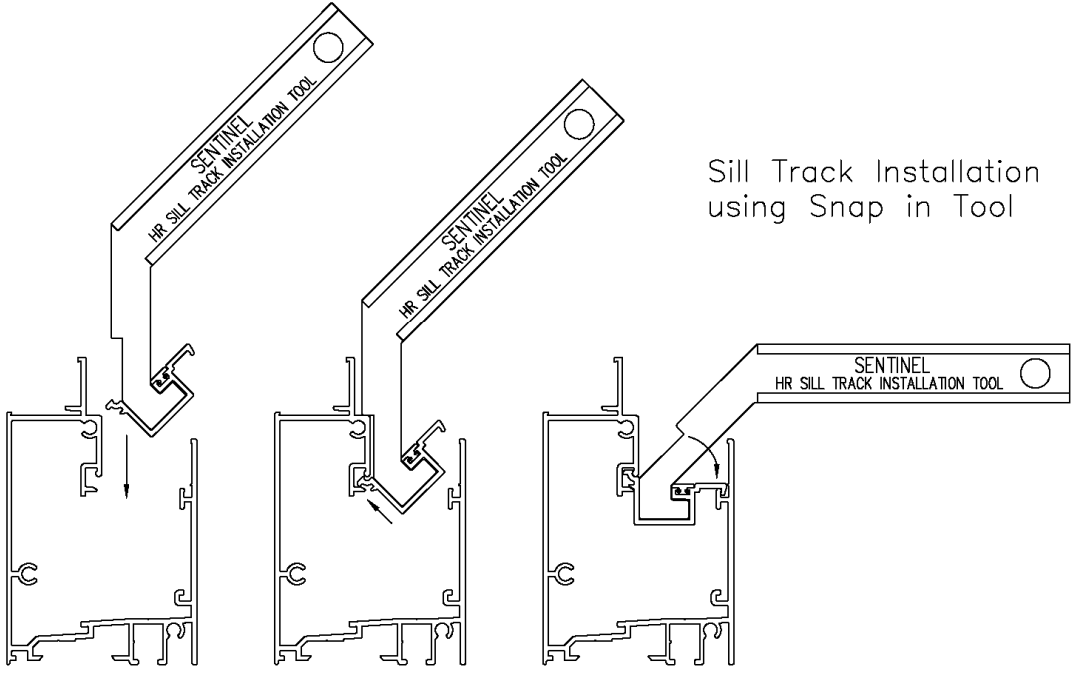

Figure 8: Roller Track Removal/Installation
Page 13:	Figure 8: Roller Track Removal/Installation
7. Insert the provided sill cap removal tool into sill cap and disengage the cap as shown in *figure 8*. The installation holes at the sill of the window are now exposed.
14. With the sill cap tool, re-insert the sill cap on the sill as shown in *figure 8*. Insert the sash back into the window frame by reversing the steps used when removing it.